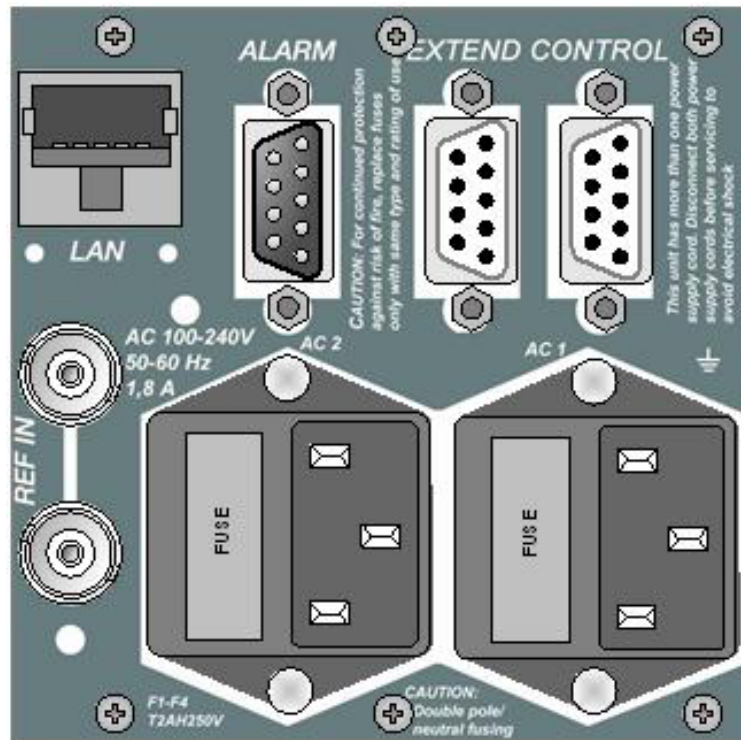

Figure 5 Rear Panel Connections
- Via a GPO alarm via the alarm connector on the termination panel (figure 5), if a controller option is fitted
The R FR 5010/ R FR 5011 has an integral termination panel on the rear of the rack for the connection of power and various other connections for expansion and interfacing. Figure 5
There are two power connections provided for the rack. One is for primary power and the other for the optional redundant power supply. Input power range is 100 to 240VAC 50 to 60Hz. Connection is made using an IEC power cable. For systems without redundant power connection is made to **AC1 in** only. The power fuse is in the connector assembly (Figure 5) and removal of this small module will enable fuse exchange. Please ensure you use the correct fuse rating. (2A).
A stud is provided on the termination panel for the connection of an external ground. (Figure 5)